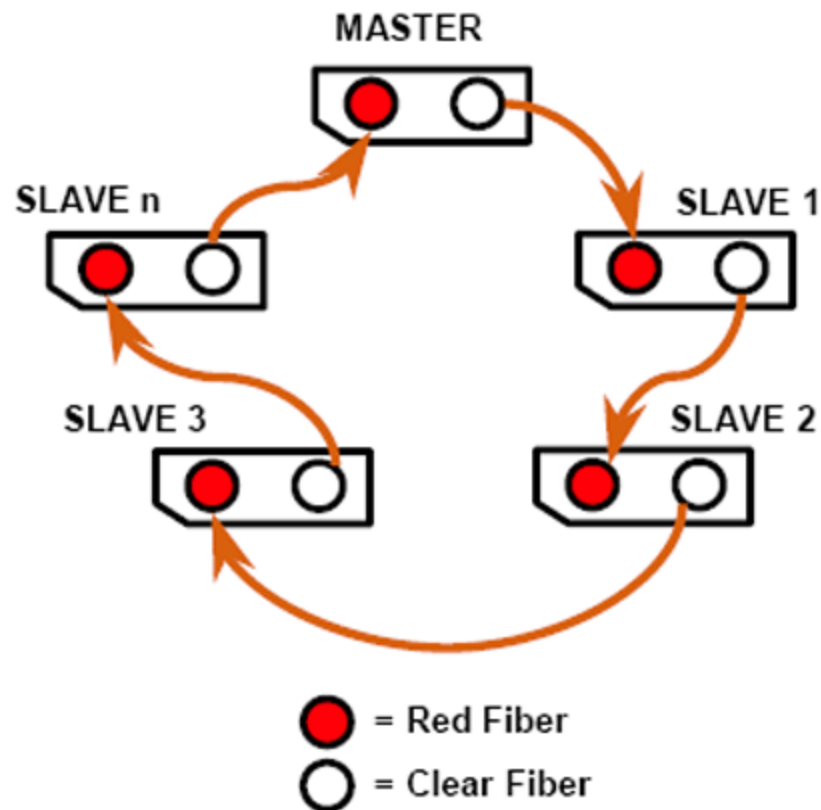

Figure 1
3. Fibers optics have a ring type configuration (i.e. The output of the previous component is coupled to the input of the next component in a daisy chain type loop. The ring must form a closed loop in order to function [Figure 1]).
4. Light enters the clear fiber (input) and exits the red fiber (output). Each active D2B connector must therefore contain one red and one clear fiber (Figure 1).
clear fiber on the square side of the connector (Figure 1).
6. All fiber connections or couplings should follow a clear to red logic. A coupling must never contain two fibers of the same color (Figure 1).